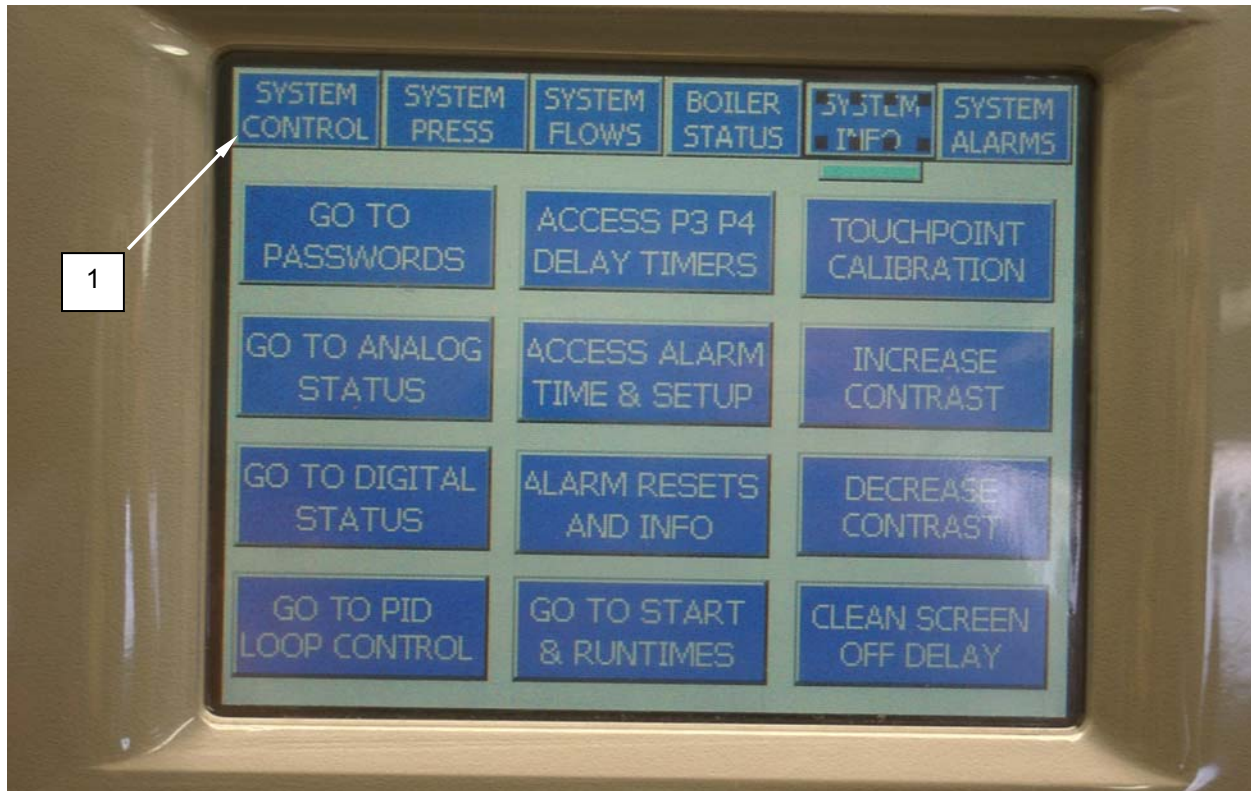

Figure 21. System Info Display.
The PLC will show the display in Figure 21. Each button provides access to a menu function.
2. Press System Control (**Figure 21, Item 1**) to return to the System Control menu.